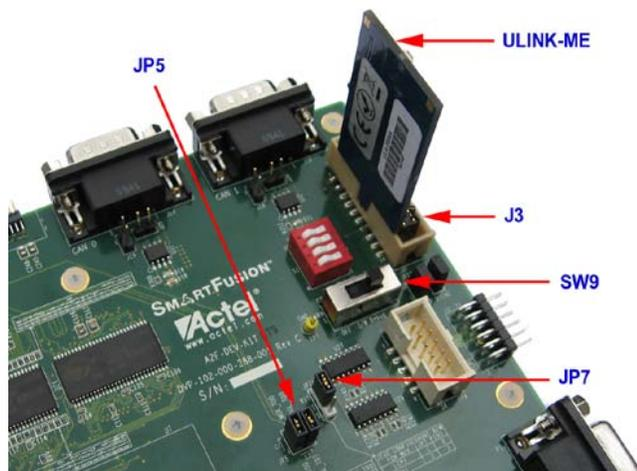

Figure 4: DEV-KIT Jumpers Settings for ULINK operation.
**A2F-DEV-KIT:** the Big Green Board: See Figure 4.
1. Connect the ULINK to J3, the standard JTAG adapter as shown in Figure 4.
5. JP5 both jumpers to C1 – Single Prog. See Figure 4 for a close-up of these jumpers.